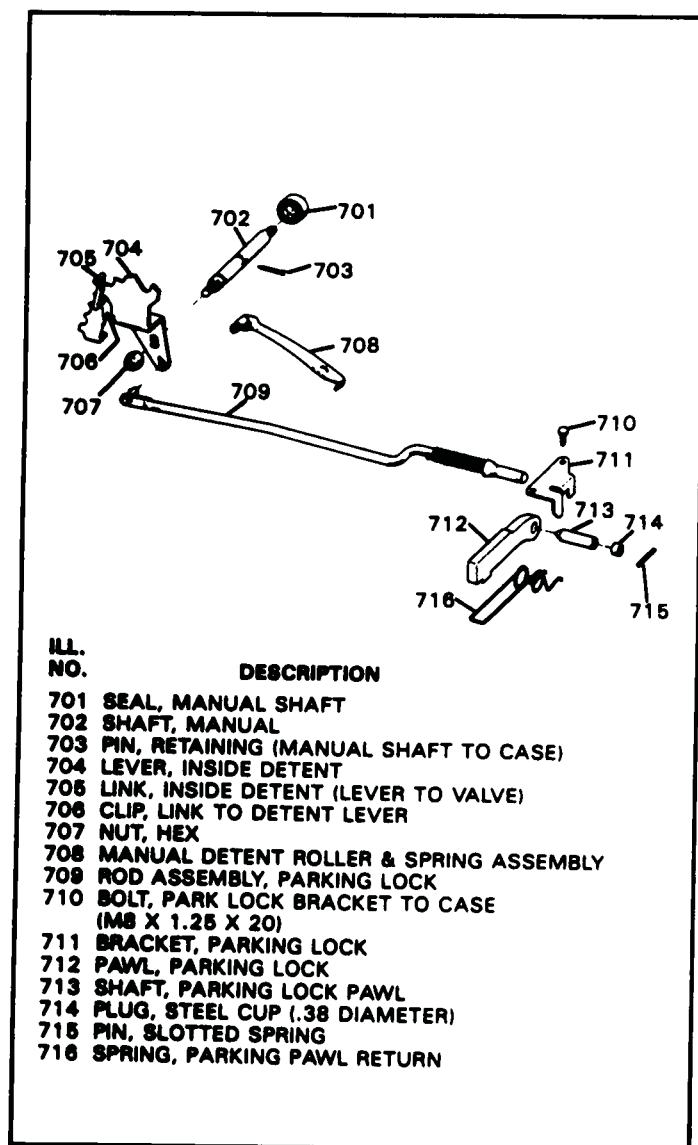

Figure 63
16. Remove the hex nut and inside detent lever as shown in Figure 63, from the manual shaft.
17. Remove the manual shaft retaining pin (703) (nail) from the case (See Figure 63).
18. Remove the manual shaft from the case, as shown in Figure 63.
6. Install the park rod into the inside detent lever, install the inside detent lever onto the manual shaft and ensure it is engaged on the flats (See Figure 63).